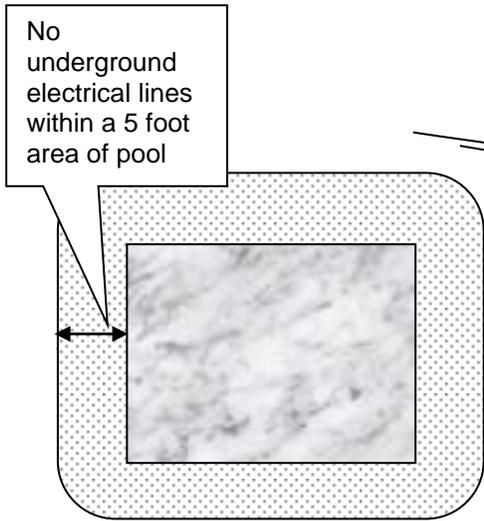

Figure 2
2. All swimming pools as defined above shall be provided with a fence to provide no less than 50% opacity when viewed from between 2 feet and 5 feet at property lines with a minimum fence height of 5 feet and not more than six feet (Fig. 2&6). If the fencing provided is other than solid fencing, the pool shall be effectively screened from view outside the lot by densely
9. There shall not be any underground electrical conductors within five feet (5') of the pool/spa (Fig. 2). (NEC 2005 Art. 680.10) Exception: if conductors are encased in a raceway.